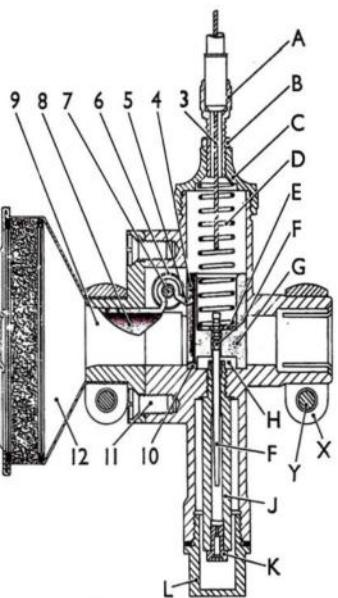

Fig. 2
**MIXTURE CONTROL.** The throttle (G) is of the piston type sliding up and down. It is slotted down its length, one facing in one direction and number 4 is in there for the operation of starting (Fig. 2). The other narrower slot running the whole length of the throttle is a guide to prevent the throttle from turning round or from being put in the wrong way round. The groove fits over the key inside the mixing chamber. The throttle (G) rests cutaway on an air inlet slot at the end of the jet which cutaway can have different angles to operate for the purposes of mixture control at lower speeds. The throttle (G) carries a taper needle (F) which protrudes into the needle jet (J) : there are several positions of the needle (F) to suit different engine requirements and adjusted correctly by its relation to the throttle opening. The needle travels up and down as the throttle is moved because the needle clip (E) rests on the throttle and is held there by the throttle spring (D). The throttle needs to be accurately set to the correct position so that the main jet which has an accurate bore, the differences in diameters providing a means of controlling the flow from the main jet to correct the mixture at mid-throttle openings.